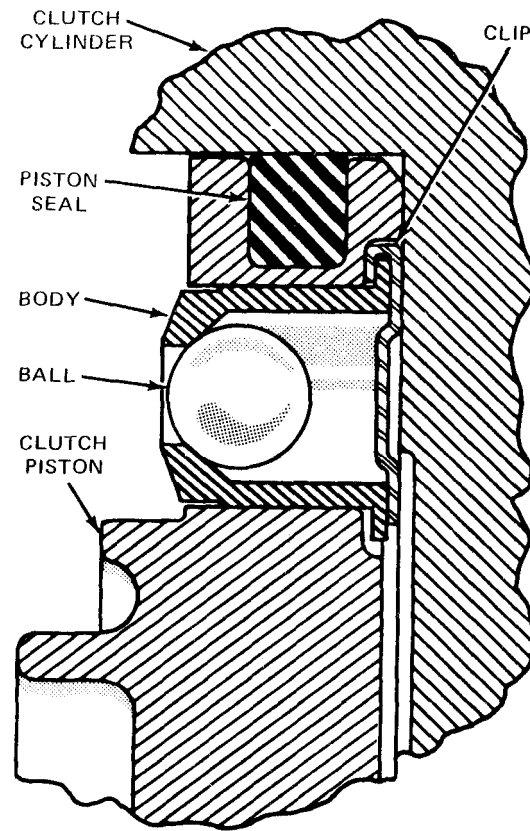

Figure 7-31. Clutch Piston Check Ball.
(1) Inspect the clutch cylinder thrust surfaces, piston bore, and clutch plate serrations for scores or burrs. Minor scores or burrs may be removed with crocus cloth. Replace the clutch cylinder if it is badly -scored or damaged.
(2) Check the fluid passages in the clutch cylinder for obstructions. Clean out all fluid passages. Inspect the clutch piston for scores and replace if necessary. Inspect the piston check ball for freedom of movement and proper seating (fig. 7-31).